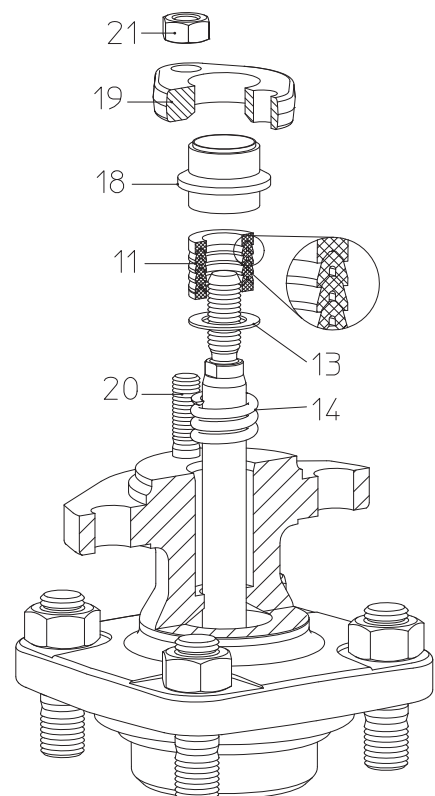

Fig. 10: V-ring unit
- When replacing PTFE V-ring unit (pos. 11), make sure that the parts are installed in the correct order and positions (refer to Fig. 10).